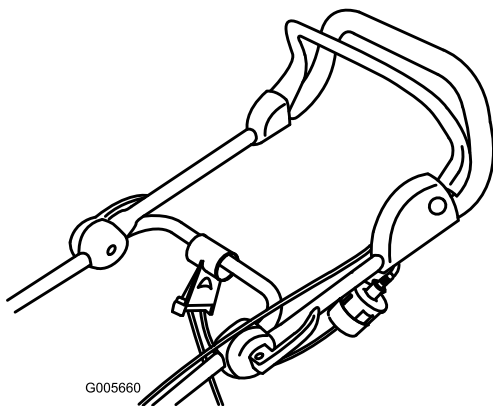

Figure 13
2. Connect the extension cord to the mower plug (Figure 13).